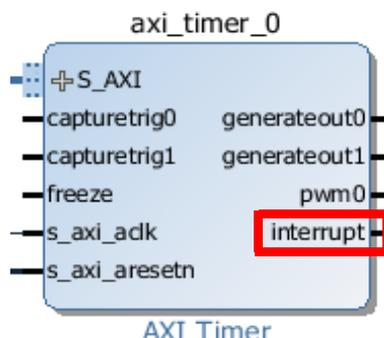

Figure 2.37: AXI Timer in the block design
- (f) Note that in Figure 2.37 the AXI Timer features an interrupt request, which requires connection to the Zynq PS. However, we already have an interrupt connected to the input of the PS. This input is a shared interrupt port, and so accepts multiple interrupts via one signal. We therefore require an additional IP block to concatenate these two interrupt requests into one signal. In the canvas, right-click anywhere and select **Add IP**. Enter **concat** in the search field and add the IP **Concat** to the design.